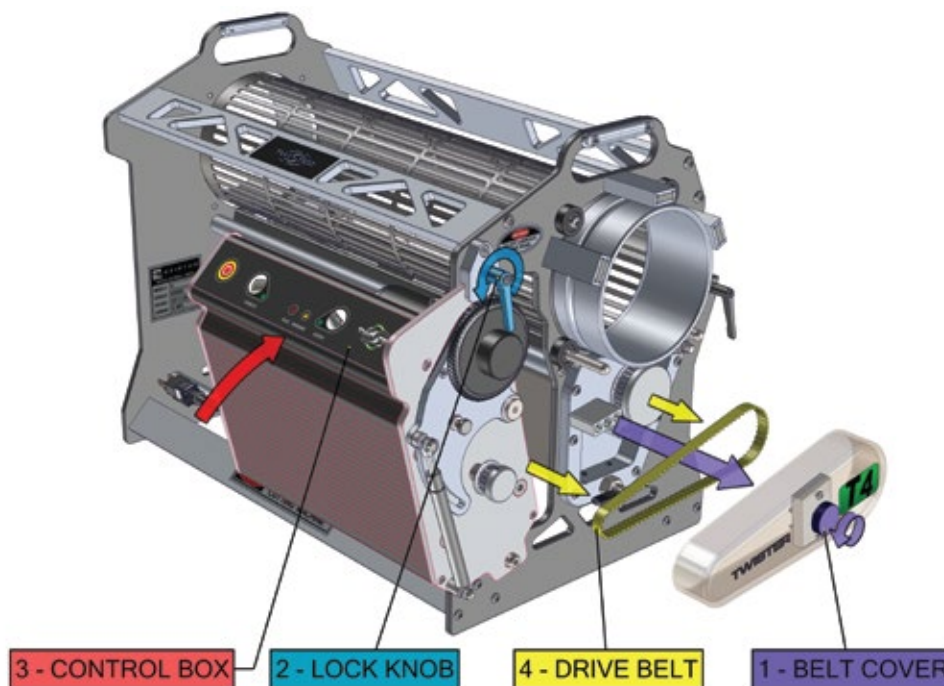

Figure 24: Removing the drive belt
Now you'll need to remove the drive belt (Figure 24); unscrew and remove the belt cover (1), then loosen the lock knob (2), push the control box (3) in towards the tumbler to reduce tension on the drive belt, and pull the drive belt off (4).